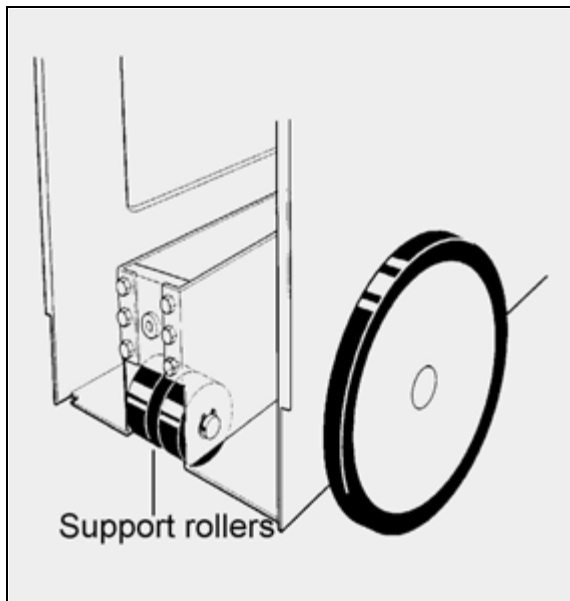

Fig. 3: Rollers
- Ensure attachment of the support rollers (Fig. 3 / p. 39).
- Ensure smooth rotation of the rollers (Fig. 3 / p. 39).